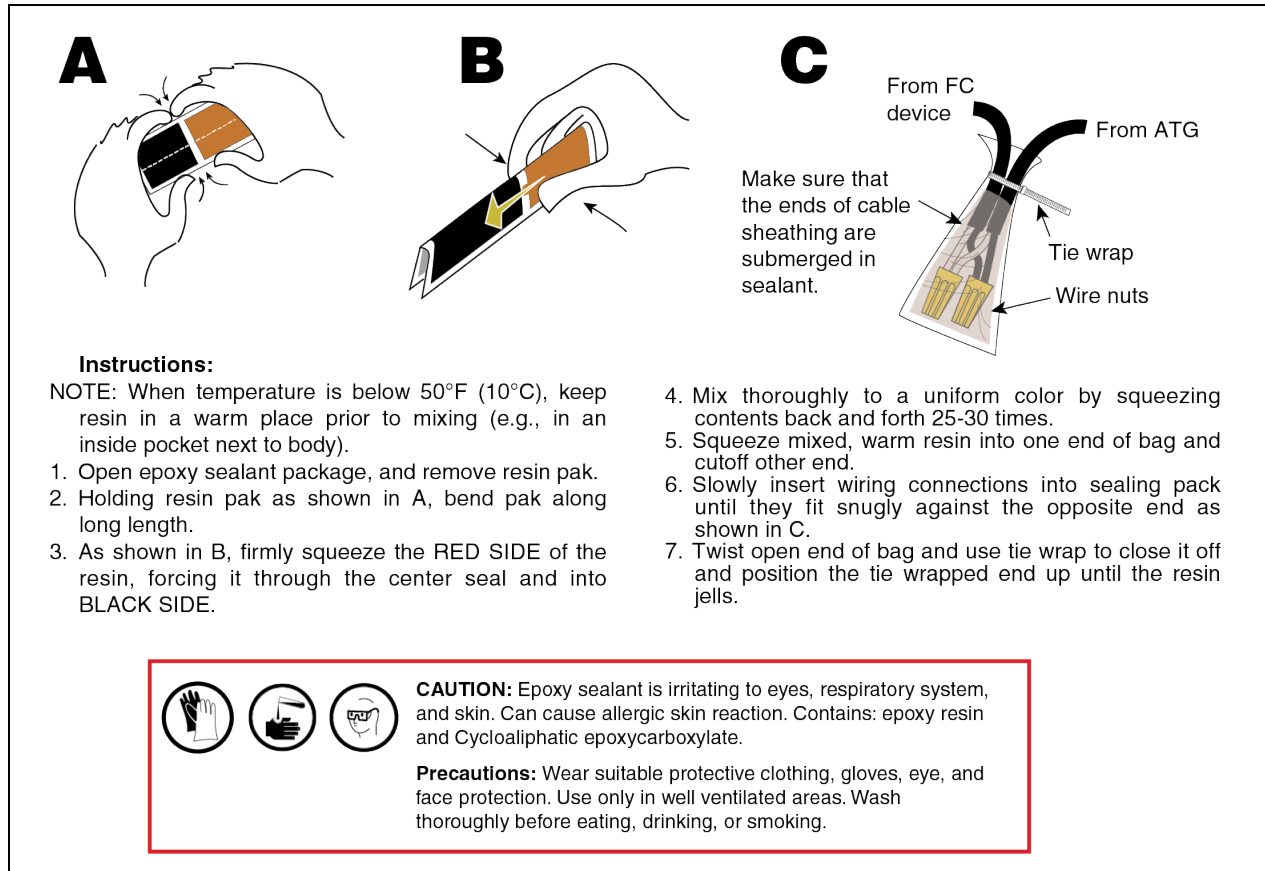

Figure 2. Epoxy Sealing Pressure Sensor Field Wiring
8. Connect the new Pressure Sensor cable wires to the field wires and seal wire connections in the epoxy pack as shown in Figure 2.